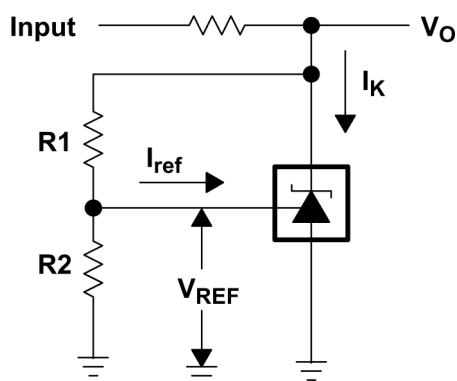

图 6-2. Test Circuit for $v_{KA} > V_{REF}$, $V_O = V_{KA} = V_{REF} \times (1 + R1/R2) + I_{ref} \times R1$
(3) The dynamic impedance is defined as $|z_{KA}|$. When the device is operating with two external resistors (see Figure 6-2), the total